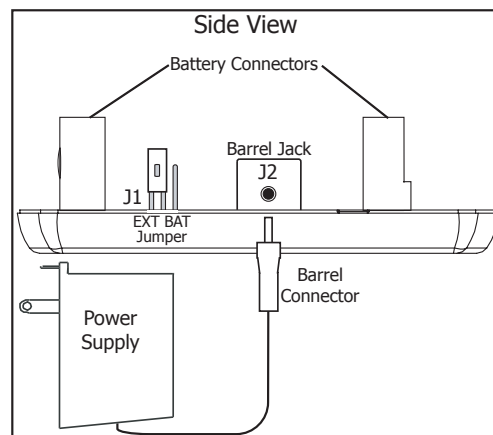

Figure 3: 1118 Side View
4. Place the 3.0V Lithium battery in the holder and press into place. See Figure 3 for Battery location.
4. Plug the power supply barrel connector into the J2 barrel jack at the side of the 1118 transmitter cover. See Figure 3.